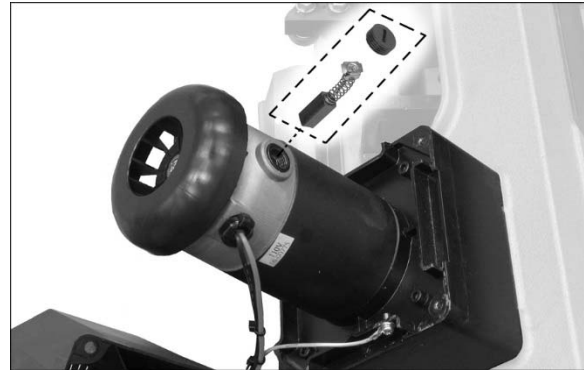

Figure 9-1
3. Unscrew and remove cap with flat blade screwdriver. See Figure 9-1.